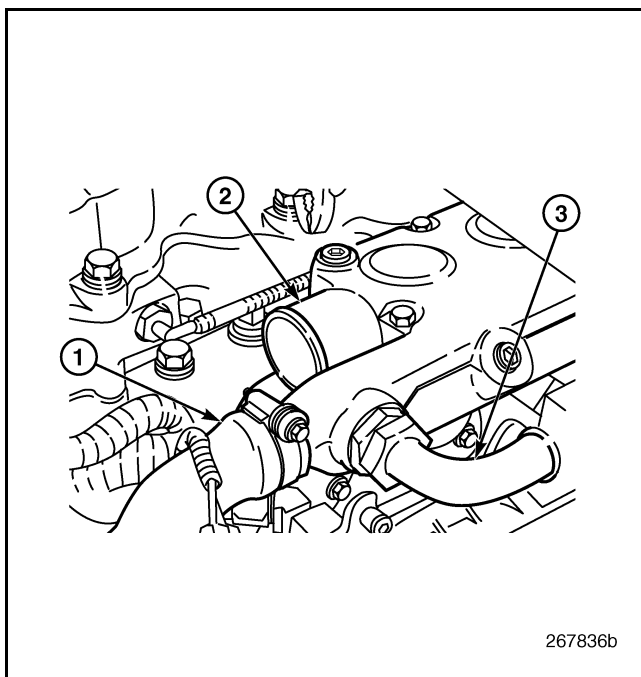

Figure 426 — Thermostat Housing Hose Connections
- Reconnect the bypass and radiator hoses at the front of the thermostat housing (Figure 426) and reconnect the surge tank hose. Tighten all hose clamps to specifications.